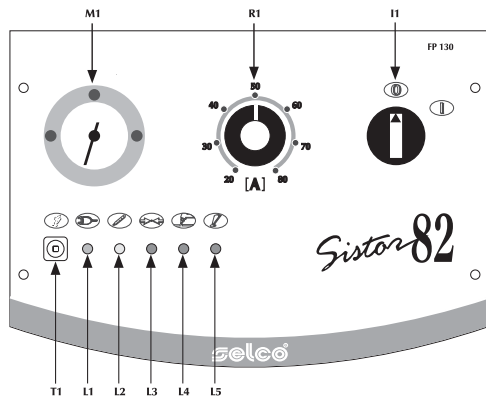

Fig. 1
4.1 Front control panel (Fig.1)
Comes on with the start switch (Fig.1) "I1" in position "I" and indicates that the plant is on and there is voltage.